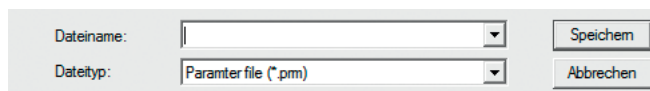

Fig. 6.67 “Upgrade/Downgrade Firmware” – save backup parameters
- ▶ Press **“Yes”** and save file (see Fig. 6.67).